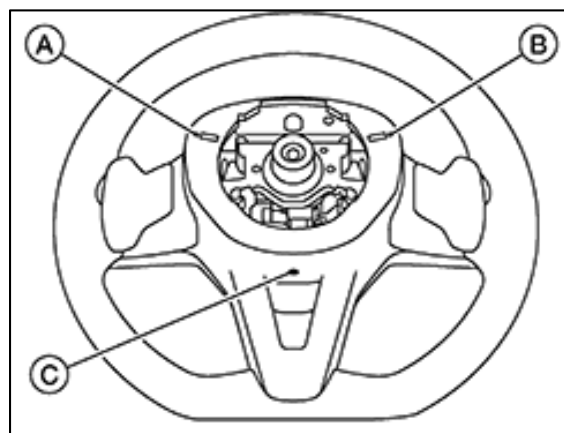

Figure 2
3. Locate the two (2) access holes on the back of the steering wheel and the one (1) access hole on the bottom of the steering wheel (Figure 2).
7. Turn the steering wheel in the opposite direction, and then repeat steps 4 - 6 to release spring B (Figure 2 on page 3).
8. Using the Airbag Release Tool (A), gently push the bottom pawl (B) and gently tilt the bottom of the driver airbag module outward so that the pawl will not re-engage, and then pull out the driver airbag module.